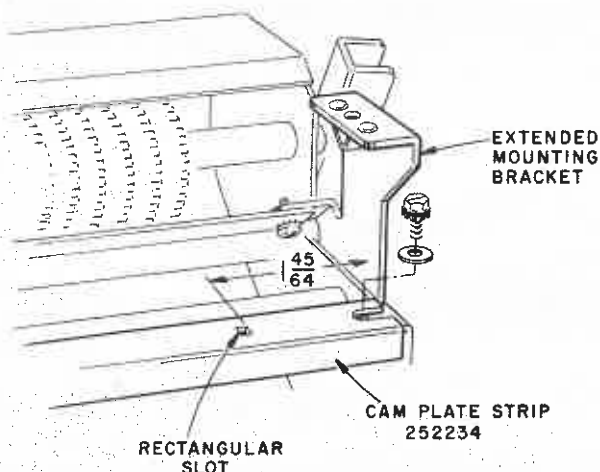

Figure 2. Mounting of New Cam Plate Strip.
- Remove old Cam Plate Strip and replace with new Cam Plate Strip (Part No. 252234). The new Cam Plate Strip has longer mounting slots and should be positioned as shown in Figure 2.